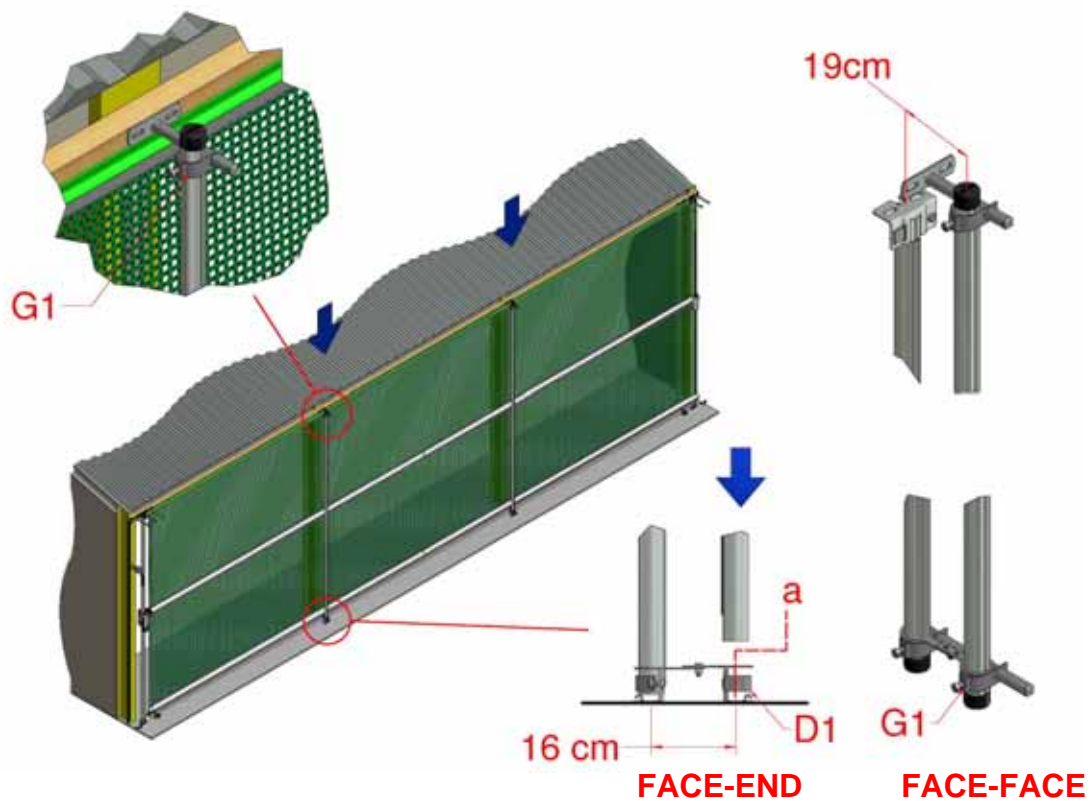

Figure 21, Outer Control Tube Installation
- 4.8 Fit all intermediate outer Control Tubes between the upper and lower brackets, not including those for the End Covers, as shown in Figure 21. Cut the fitted Face Brackets to length (if desired) and complete by fitting protective black caps (T1) to free ends of tubes